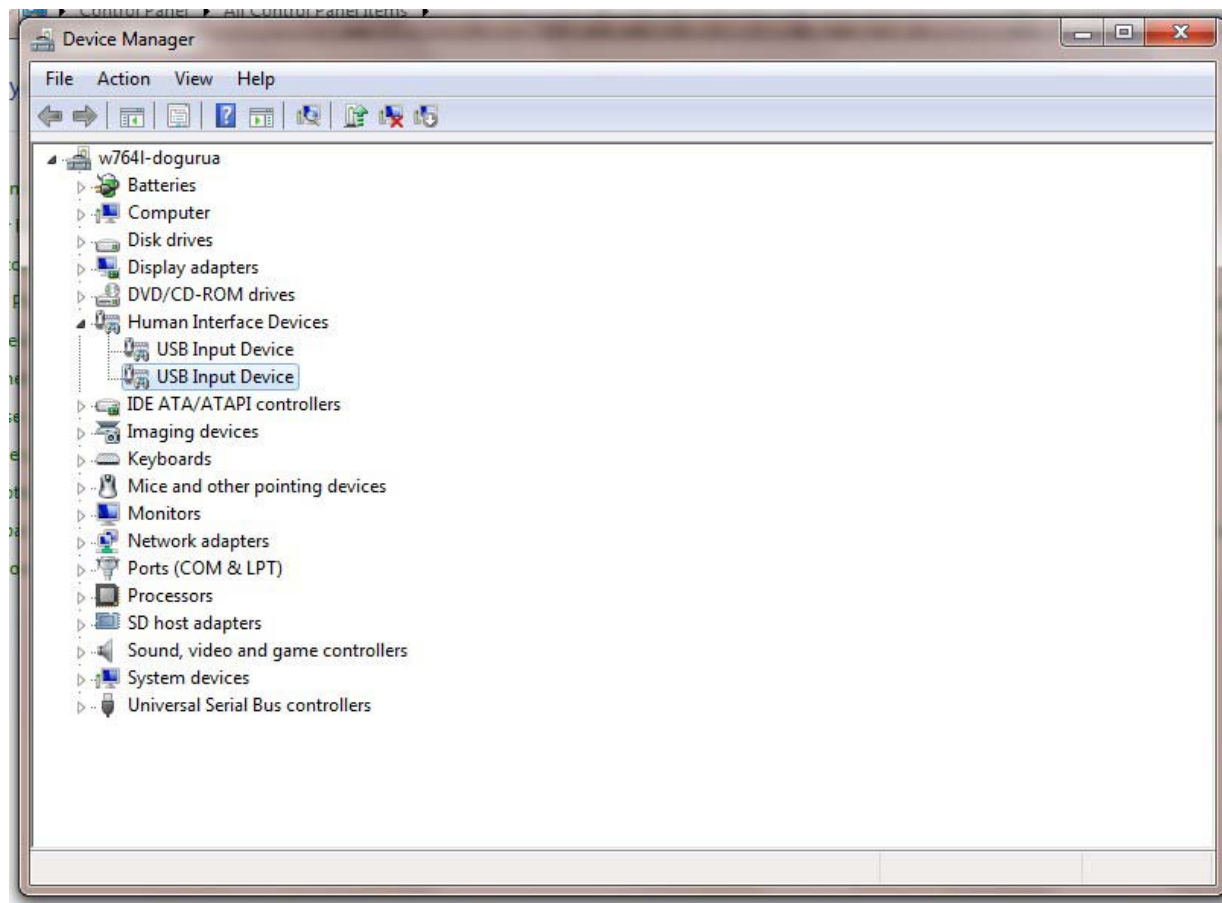

Figure 4 • Device Manager
3. Open Device Manager of the Host PC and select **USB Input Device** under **Human Interface Devices** as shown in Figure 4.